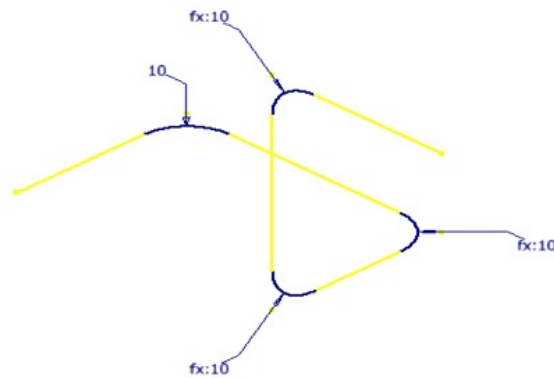

Figure 14-46 3D Sketch after turning off the visibility of the 2D sketches
- d. Add bends at all the corners and then exit the 3D sketching environment, refer to Figure 14-46.
6. Now, turn off the visibility of the two 2D sketches using the **Browser Bar**. The 3D sketch after turning off the visibility of the 2D sketches is shown in Figure 14-46.